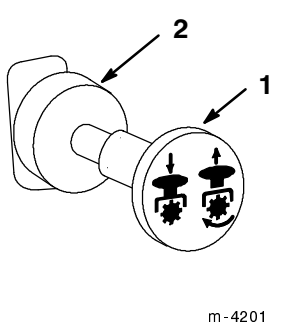

Figure 14
3. Move the PTO (power take off) switch to “OFF” (Fig. 14).